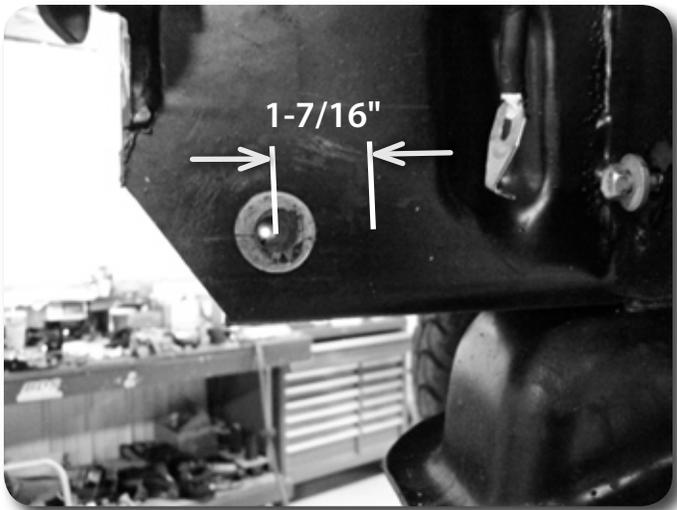

Figure 12
23. Locate the factory tow hook mount holes in the front of the frame rails. The driver's side of each frame rail will only have one tow hook hole. Measure straight back from the center of the existing hole 1-7/16" and mark. **Figure 12** Drill a 1/2" hole at the mark (one hole per frame rail).